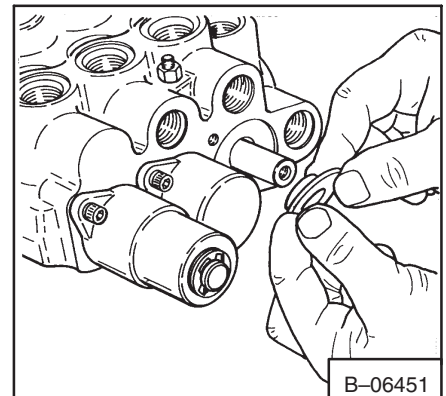

Fig. 2-34a Back-Up Washer
17. Remove the back-up washer (Fig. 2-34a) and the O-ring.